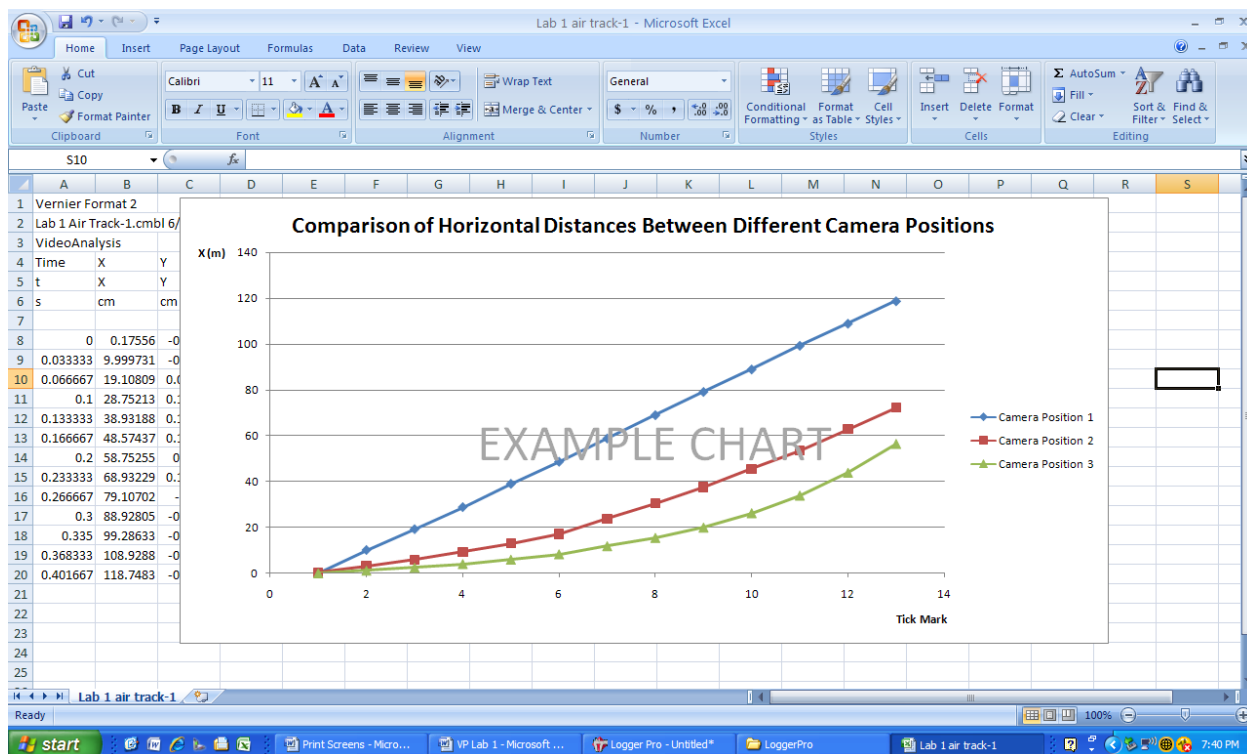

Figure 5
1. Plot the horizontal displacement intervals between the ten data points you selected in an Excel chart. Place the data from all three movies into the same chart for easy comparison. *Copy and Paste* this chart into your TM. The chart should display the obvious differences in the horizontal displacements between the three camera angles. Figure 5 shows an example chart with all three data series in the chart.